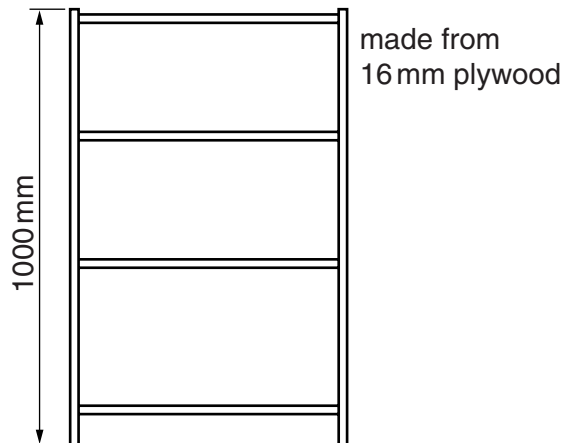

Fig. 10
- (ii) Fig. 10 shows a design for a bookcase to be made from manufactured board. Use sketches and notes to show how the shelves can be prevented from bending due to the weight of books. Include details of materials and construction used.